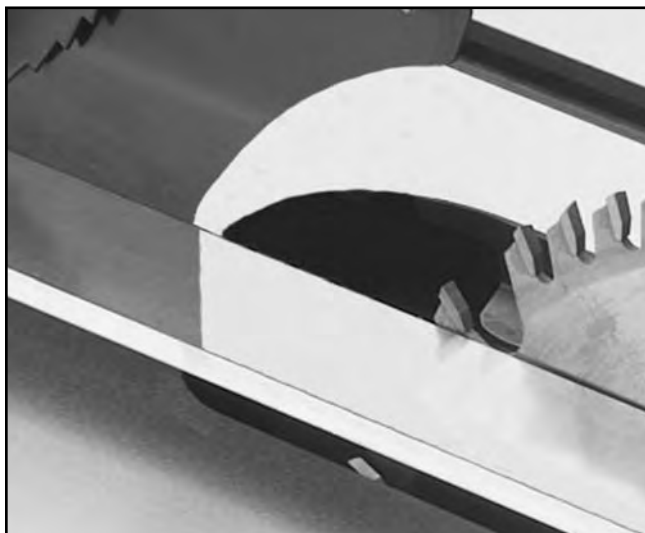

Figure 28. Checking alignment of blade guard.
6. Next, set a straightedge against the face of the saw blade and the blade guard/splitter as shown in **Figure 28**. If the blade guard/splitter is properly aligned, please skip ahead to the next section; otherwise, continue with the next step.